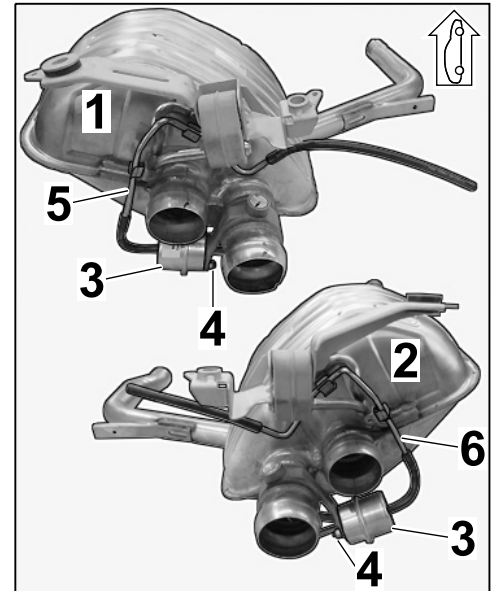

Figure 31
4.4.1 Fit new rear muffler vacuum unit on the left/right rear muffler for the sport exhaust system using new lock nuts (M6, 2 ea.) and a new lock washer (1 ea.) (⇒ *Figure 31*).